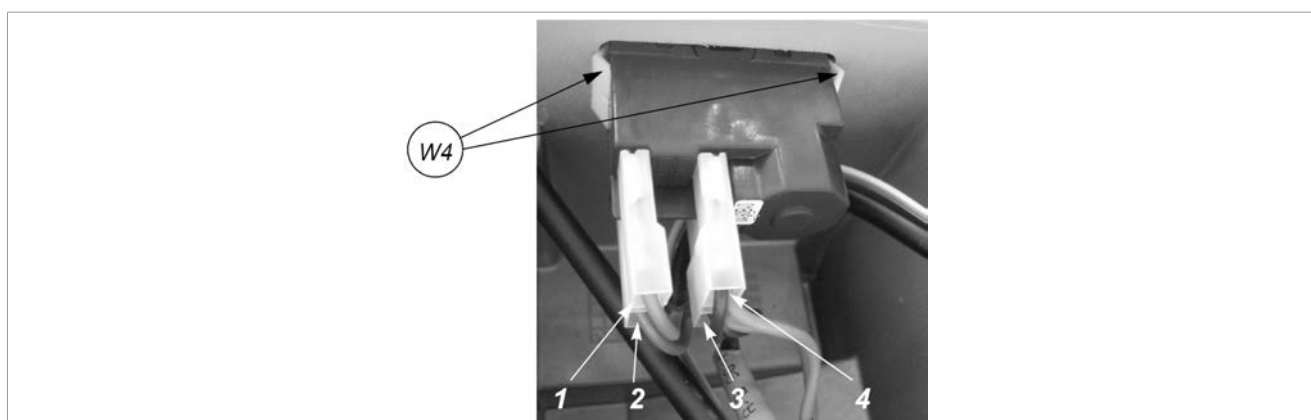

Fig. 32
- 3) Detach the various connectors (1, 2, 3, 4) paying careful attention to their positions (Fig. 32).
- 7) Replace the bottom safety plate and fix with the 7 screws (W) and 2 feet. Fit the swarf tray.